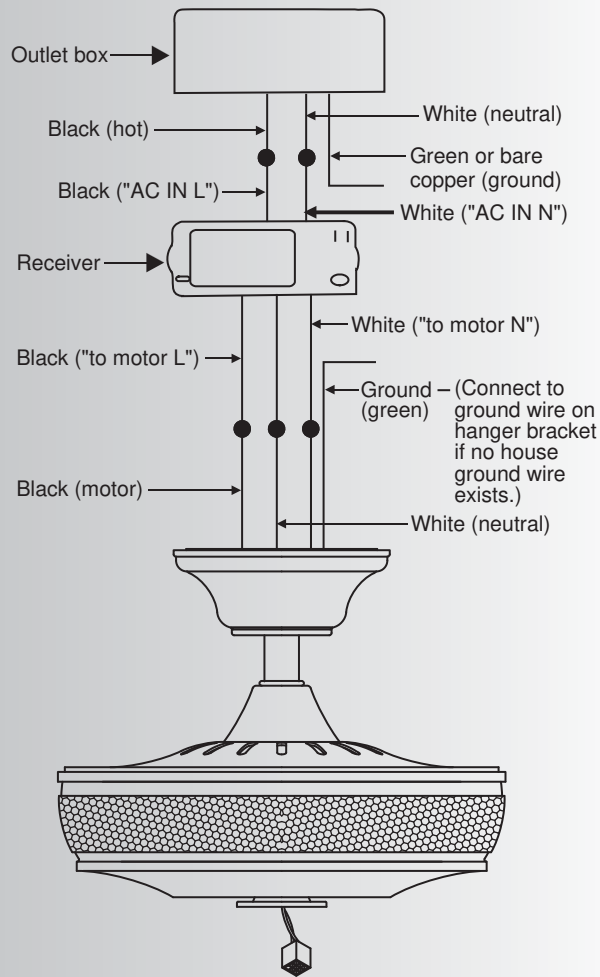

Fig. 14
### Step 2. Motor to Receiver Electrical Connections: (Fig. 14)
### Step 3. (Fig. 14) Receiver to House Supply Wires Electrical Connections:
Step 4. (Fig. 14) If your outlet box has a ground wire (green or bare copper) connect it to the fan ground wires; otherwise connect the hanging bracket ground wire to the mounting bracket. Secure the wire connection with a plastic nut provided. After connecting the wires, spread them apart so that the green and white wires are on one side of the outlet box and black and blue wires are on the other side. Carefully tuck the wire connections up into the outlet box.